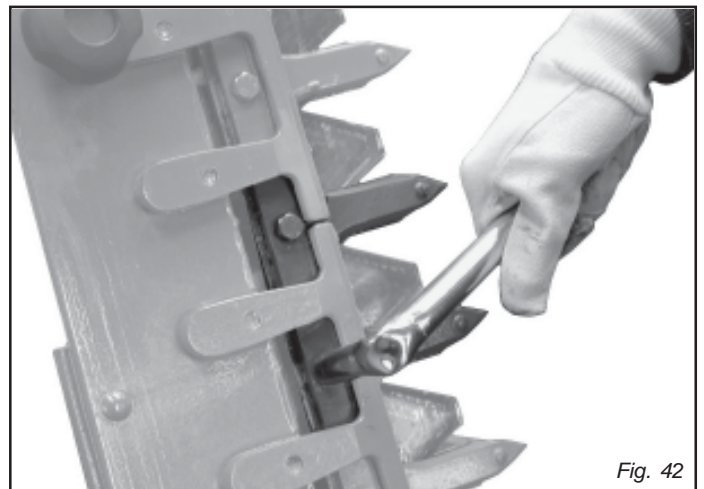

Fig. 42
- During the first working hours, check that the screws are tight (Fig. 42).
- Unscrew all the tooth fastening screws (Fig. 42).
- Unscrew the screws of the tooth to be replaced (Fig. 42).